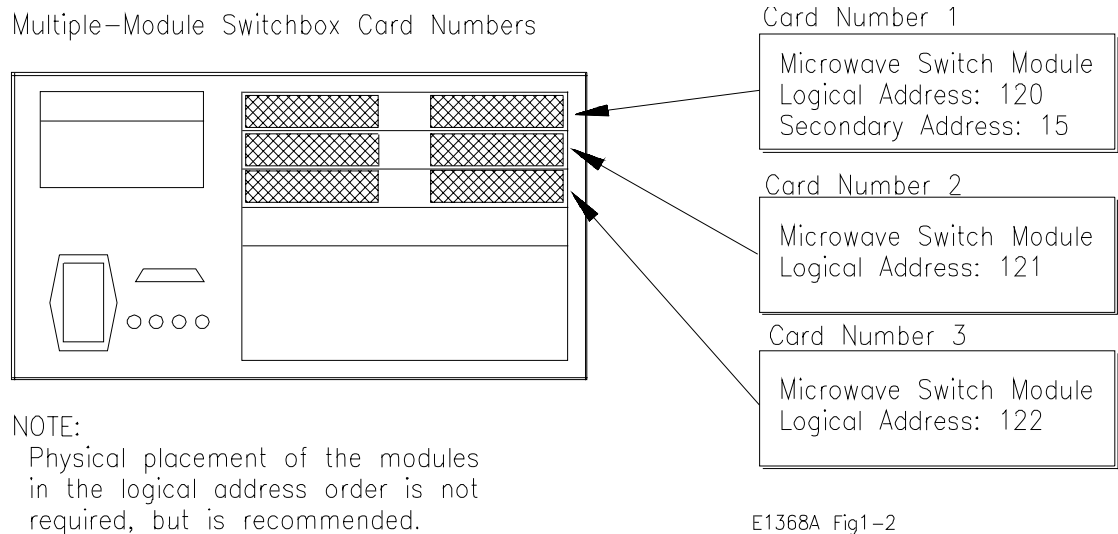

Figure 1-2. Card Numbers for Multiple-Module Switchboxes
- **Multiple-module.** For a multiple-module switchbox, the switch module with the lowest logical address is always card number 01. The card number with the next successive logical address is 02, and so on. Figure 1-2 illustrates the card numbers and logical addresses of a typical multiple-module switchbox.
The logical addresses noted in Figure 1-2 apply to modules installed in an Agilent 75000 Series B Mainframe (Agilent Model Number E1300/E1301) or in a mainframe with an Agilent E1405/E1406 Command Module. See the *Agilent 75000 Series B Installation and Getting Started Guide* or the appropriate *Agilent Command Module Manual* for more information on switchboxes and logical addressing.